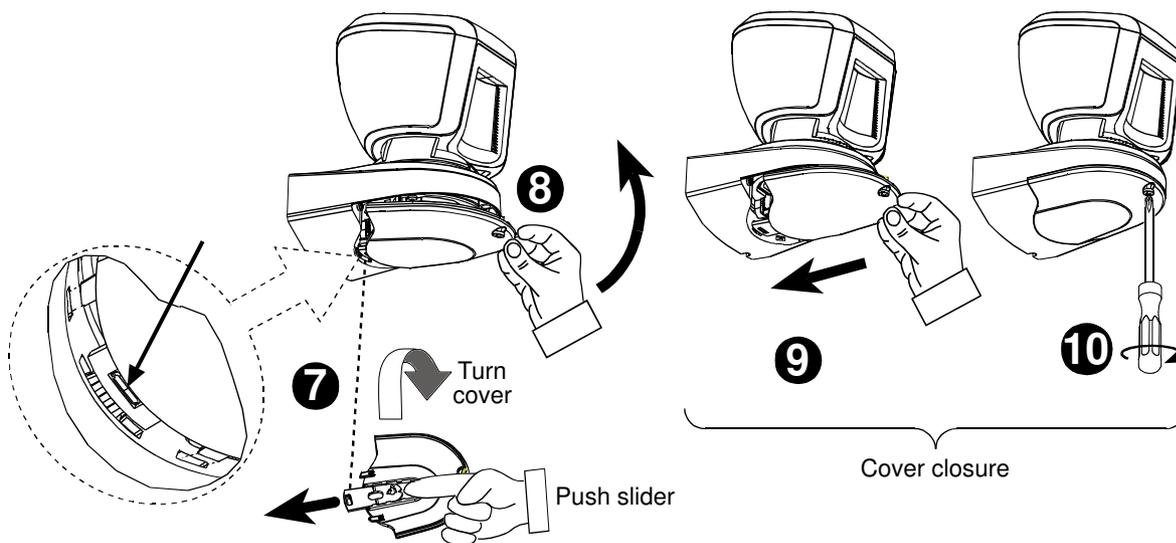

Figure 5 - Adjustment and Cover Closure
**B.** Adjust detector's horizontal and vertical angles (see Fig. 5), according to the surveyed ground surface. The vertical angle indicator position for various installation height and coverage distance combinations is detailed in Table 2 (the information refers to a relatively flat surveyed area. however, in any case the vertical adjustment should be verified by walk-test).
The LED blink, described above, is operative only in Walk-Test mode. Upon each full detection, (LED lights steadily for 2 seconds) the control panel receives the alarm. If required, perform the detector's horizontal / vertical adjustments (see section 3.4 and Figure 5).
**3.6 Cover Closure** (see Fig. 5, steps 7-10)